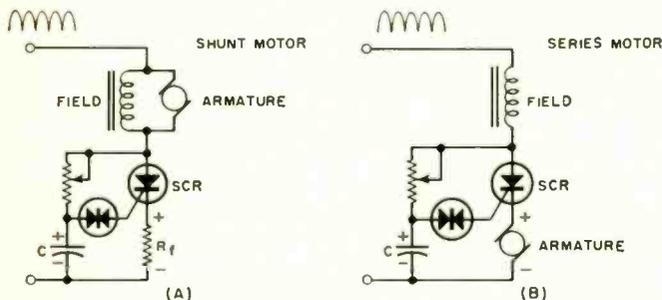

Fig. 6. Techniques using feedback for constant motor speed.
Two typical circuits are those of Fig. 6. (A) shows a resistor R_f in series with the SCR whose voltage drop adds to the normal 30 volts to which the timing capacitor C must charge. As the load varies, the drop across R_f follows, producing a feedback voltage according to Ohm's Law. R_f must be a high wattage unit since the total load power flows through it. Fig. 6B replaces resistor R_f with the armature of the motor. This is only applicable to series motors. The IR drop of the armature is directly proportional to motor current which, in turn, is directly proportional to the mechanical load. This IR drop forms the correction voltage which is again used to shift the turn-on time to maintain constant speed. There are considerably more elegant schemes for providing constant torque or constant speed, but these two simple methods are indicative of the general principles behind all controls of this type. These circuits are usually unilateral.